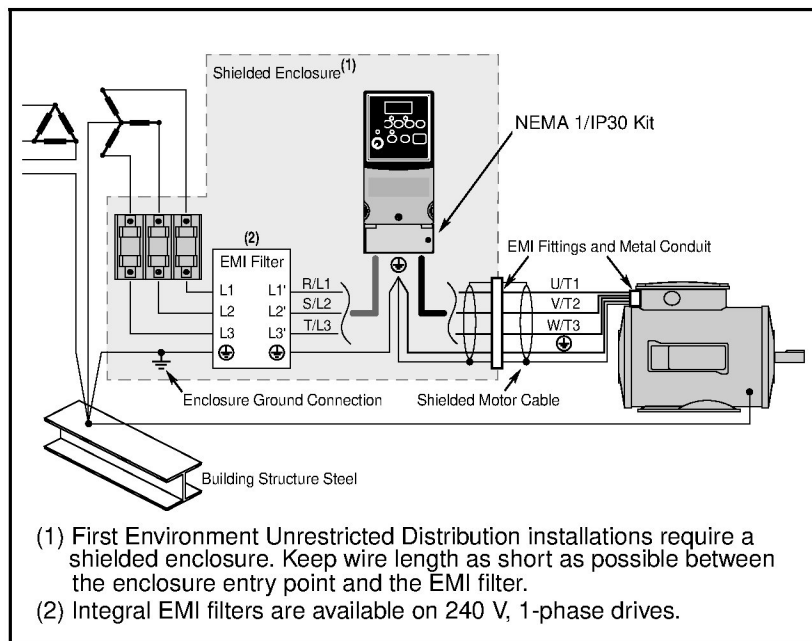

Figure D.1 – Connections and Grounding
- Grounding as described in figure D.1. Refer to chapter for additional grounding recommendations.